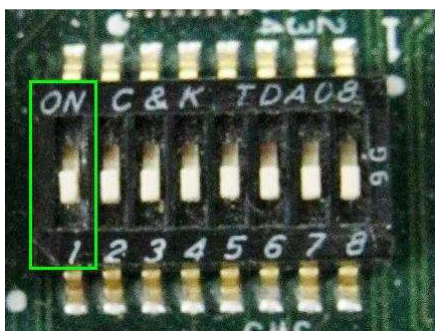
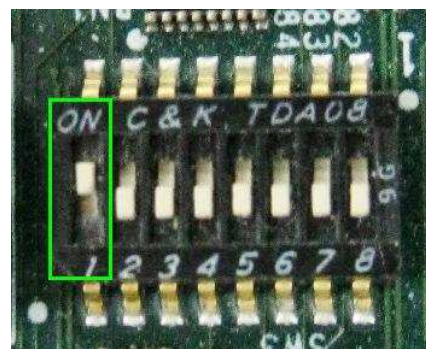

Figure 2 Set bit1 of SW3 to SATA-III
Figure 3 Set bit1 of SW3 to SATA-II
- Set bit1 of SW3 to select SATA Speed (OFF: SATA-III, ON: SATA-II), as shown in Figure 2 and Figure 3.